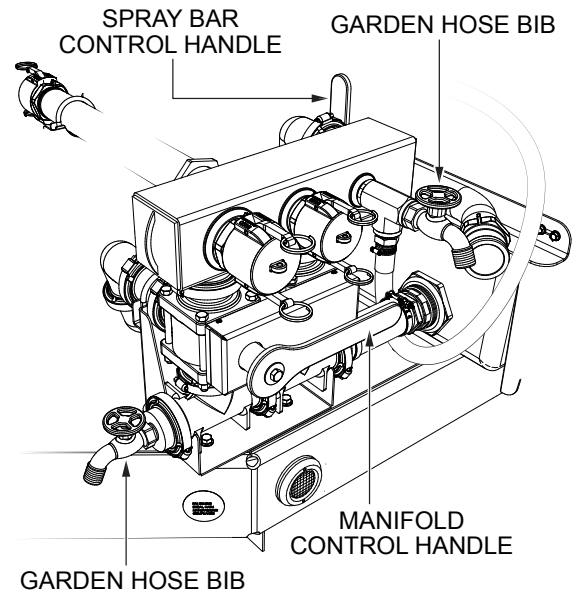
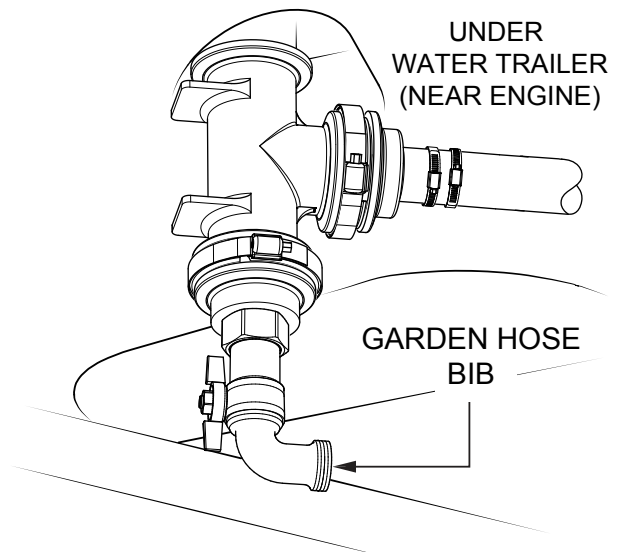

Figure 25. Control Handle Positions And Garden Hose Bib Locations
Figure 26. Third Garden Hose Bib Location
4. Place the manifold control handle in the horizontal/right position (Figure 25).
5. Place the spray bar control handle in the vertical position (Figure 25).
6. Locate and open all three garden hose bibs. See Figure 25 and Figure 26.